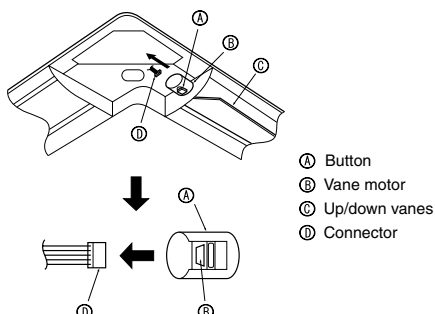

Fig. 9-9
9.5. Locking the up/down airflow direction (Fig. 9-9)